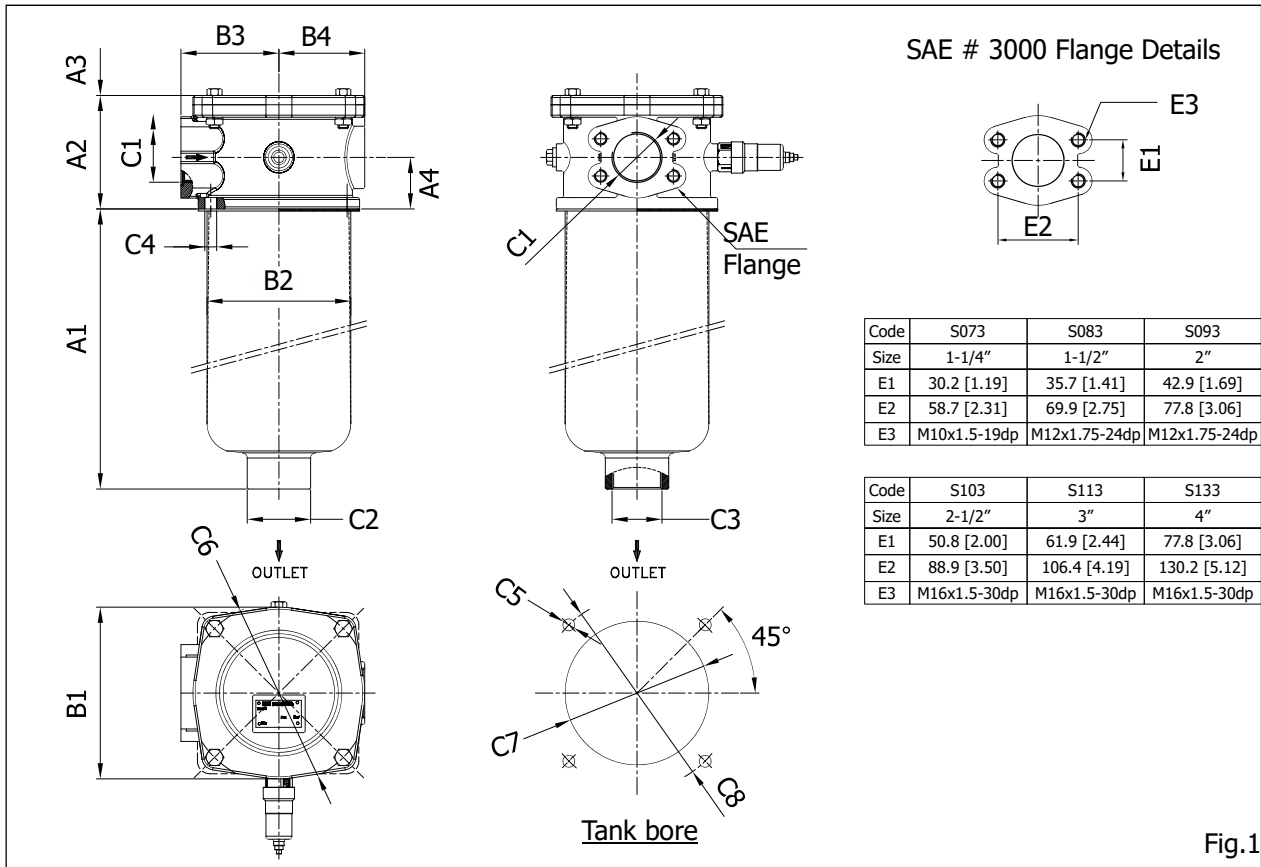

Fig.1
During assembly of the filter the tightening torques (refer page 4), the flow direction (inlet on top and outlet below the bowl) and the required service height (A3 in fig.1) for removing the filter element (3) are to be considered.
Before the assembly, the hole pattern of the tank must be compared to the tank bore dimensions in fig.1. Check that the installation opening for assembling the filter in the tank cover is not too large so that unobjectionable sealing is guaranteed.